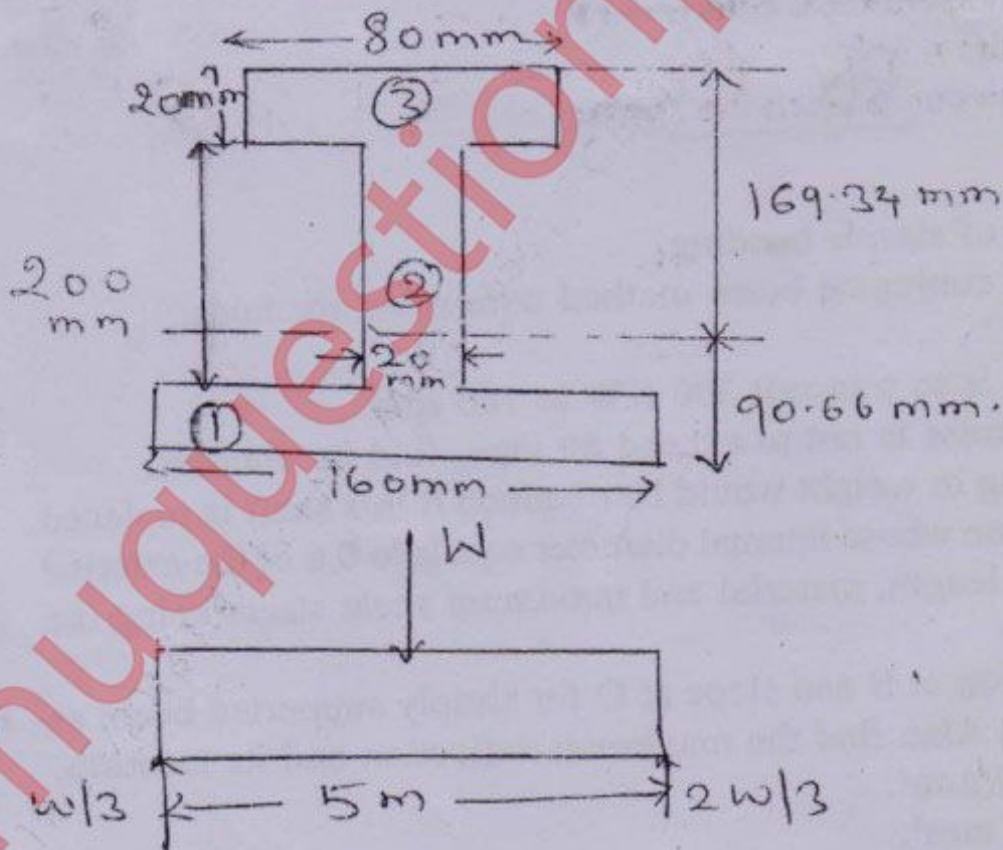

fig 3(a)
3. (a) A cast iron beam is of I-section as shown in fig 3. (a) The beam is simply supported on a span of 5 meters. If the tensile stress is not to exceed 20N/mm^2 . Find the safe uniform load which the beam can carry. Find also the maximum compressive stress. 10
- (b) Find the load W at C so that reactions at A and B are the same. Hence draw S.F.D and B.M.D for the beam as shown in the fig 3. (b). 10